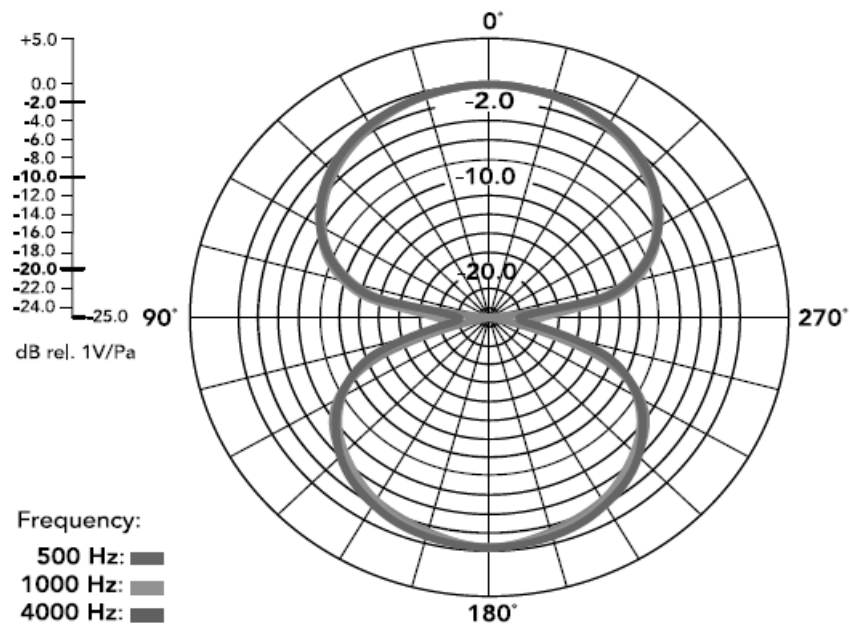

Figure 8
- **Directional Pattern:** Three position variable – Omni, Cardioid or Figure 8 (see graph)
- Three position variable polar pattern – Omni, Cardioid or Figure 8
- When in the figure 8 position (upper position), the microphone picks up sound from in front and behind, and rejects sound from the other two sides. This pattern is commonly used for interviews (Two people with the microphone between them) or in conjunction with a cardioid microphone to use the MS (mid-side) stereo recording technique.